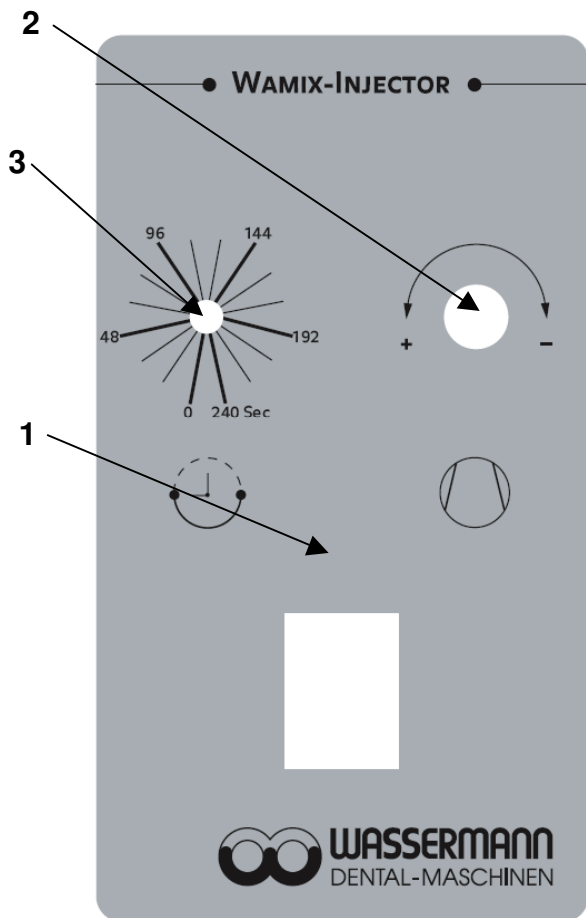

Fig. 1
- Turn the rotary knob to set the vacuum the **first time** the unit is used. The recommended input pressure is a minimum 5 bar. The **regulator knob (2) (Fig. 1)** is located on the right of the front panel. Open the valve slowly from zero until the needle is in the green zone. **The best vacuum will not be obtained if the valve is fully open - a middle setting is best.** This should be adjusted later if the pressure changes.